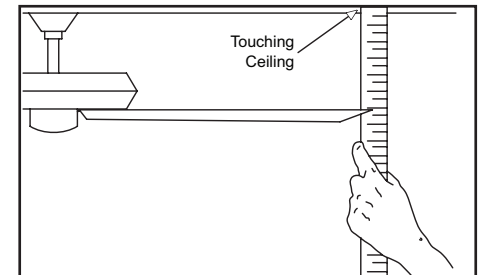

Figure 19
2. Most fan wobble problems are caused when blade levels are unequal. Check this level by selecting a point on the ceiling above the tip of one of the blades. Measure from a point on the center of each blade to the point on the ceiling. Measure this distance as shown in Figure 19. Rotate the fan until the next blade is positioned for measurement. Repeat for each blade. Measurements deviation should be within 1/8". Run the fan for 10 minutes.